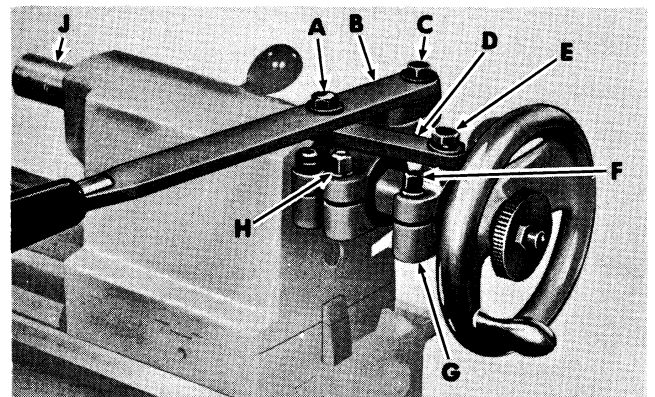

Figure 4
9. Bolt lever (B, Fig. 4) to link (D) with screw (A). Bolt lever and link to bracket and collar with screws (C) and (E).
10. Replace standard tailstock ram (J).
11. Adjust lock screw (H) until ram slides freely.
- A. Loosen lock screw (F).
- B. Move collar (G) on ram until desired travel is obtained and tighten lock screw (F).